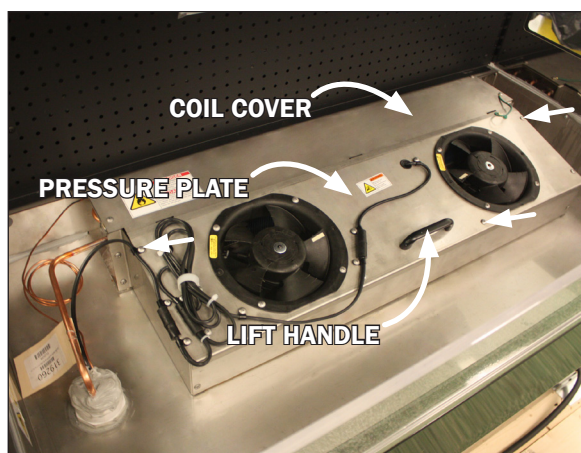

Fig. 23 Pressure plate, coil cover, screws and lift handle
3. To access the underside of the fans first remove the screws on the top ends and front sill of the pressure plate cover (Fig. 23). Lift the pressure plate by use of the provided lift handles (Fig. 23). There are hinges shared between the pressure plate and coil covers. **Note: It is recommended that more than one person lift the pressure plate.** The topside of pressure plate will rest against the topside of the coil cover, exposing the underside of the pressure plate and fans (Fig. 23).
2. Remove the top two screws at both ends of the coil cover (Fig. 23), as well as the screws from the top ends and front sill of the pressure plate cover (Fig. 23). **Be sure to save the removed screws for reassembly.**